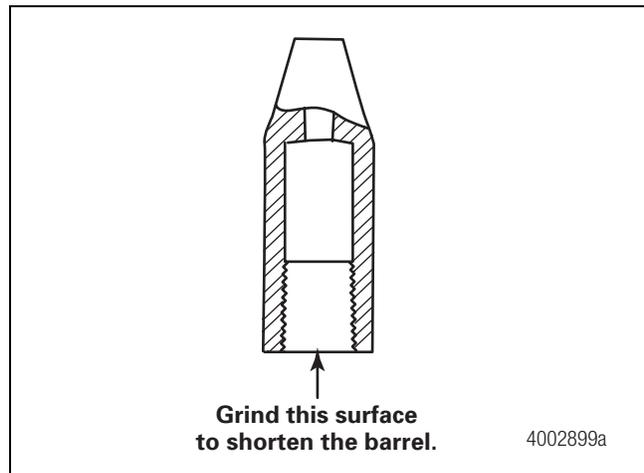

Figure 8.7
- B. Grind the bottom of the barrel as needed. Figure 8.7.